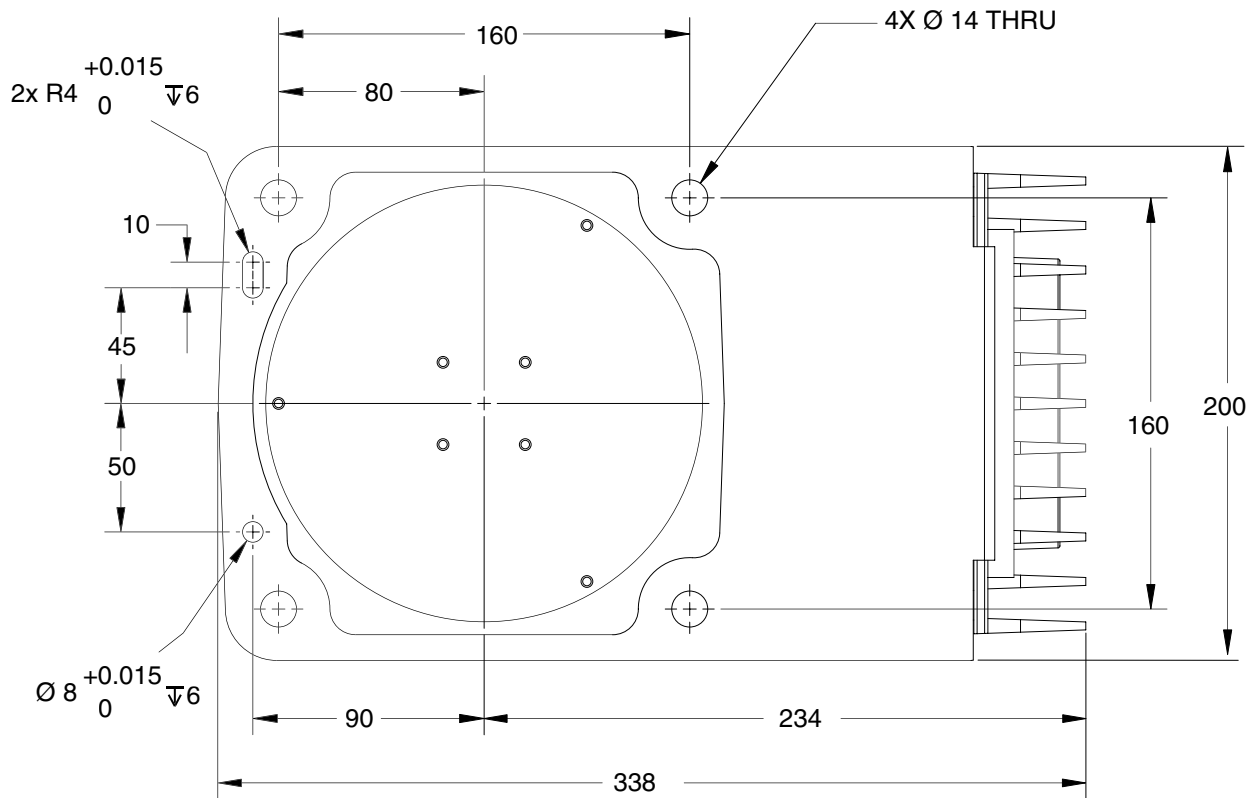

Figure 3-2. Mounting Hole Pattern for Robot
The Adept Cobra s-series robot is designed to be mounted on a smooth, flat, level tabletop. The mounting structure must be rigid enough to prevent vibration and flexing during robot operation. Adept recommends a 25 mm (1 in.) thick steel plate mounted to a rigid tube frame. Excessive vibration or mounting flexure will degrade robot performance. Figure 3-2 shows the mounting hole pattern for the Adept Cobra s-series robots.
NOTE: On the under side of the base there is a hole and a slot that can be used as locating points for user-installed dowel pins in the mounting surface; see Figure 3-2. Using locating pins could improve the ability to remove and reinstall the robot in the same position.
1. Using the dimensions shown in Figure 3-2, drill and tap the mounting surface for four M12 - 1.75 x 36 mm (or 7/16 - 14 UNC x 1.50 in.) machine bolts (bolts not provided). See Table 3-2 for bolt and torque specifications.